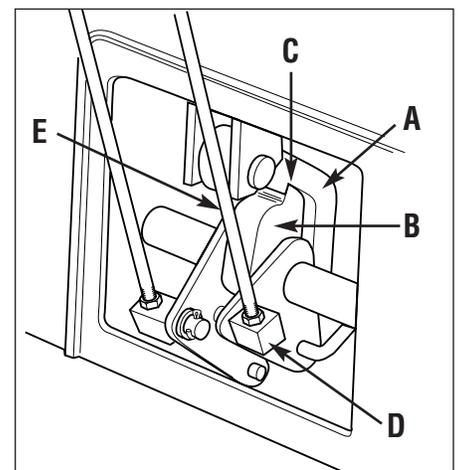

Figure 5-10: Blade Drive Control Lever adjustment.
sure the Operator Presence Control latches (A and B, Fig. 5-10) are fully engaged at point (C). If they are not fully engaged, improper operation or premature wear could result. To adjust, loosen hex nut (D) and shorten length of control rod (E). To avoid over-adjusting, turn rod only 1 to 2 turns per adjustment.